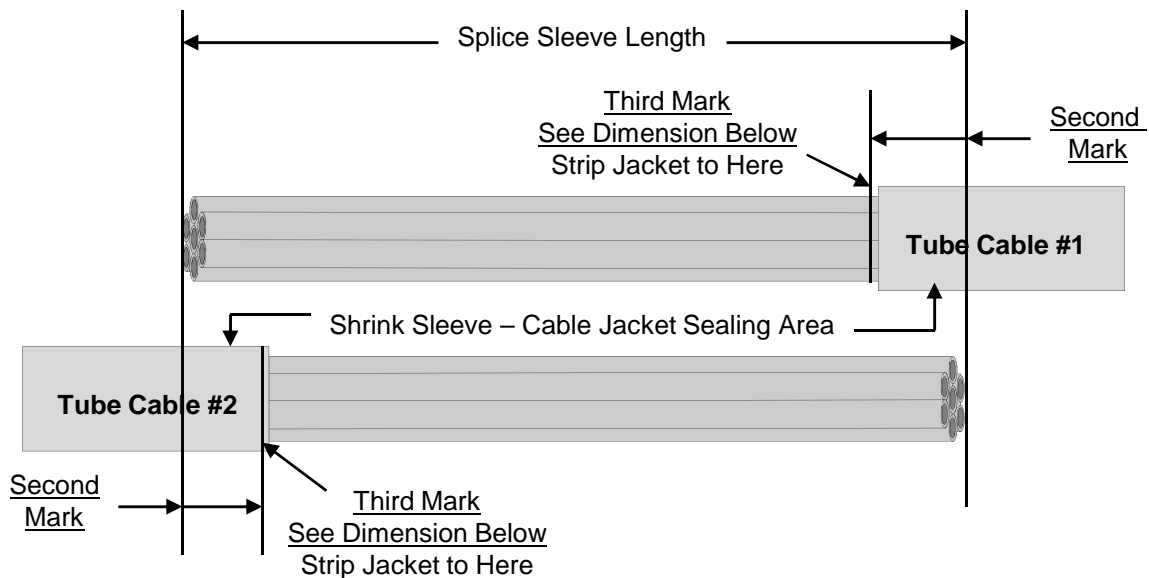

Figure 3
6.6.1 For 2- & 4-tube cables, measure at least 2" forward from Second Mark and make a Third Mark on each tube cable jacket. **See Fig. 3.**
6.6.2 For 7-tube cables, measure at least 6" forward from Second Mark and make a Third Mark on each tube cable jacket. **Refer to Fig. 3.**
6.6.3 For 19-tube cables, measure at least 5" forward from Second Mark and make a Third Mark on each tube cable jacket. **Refer to Fig. 3.**